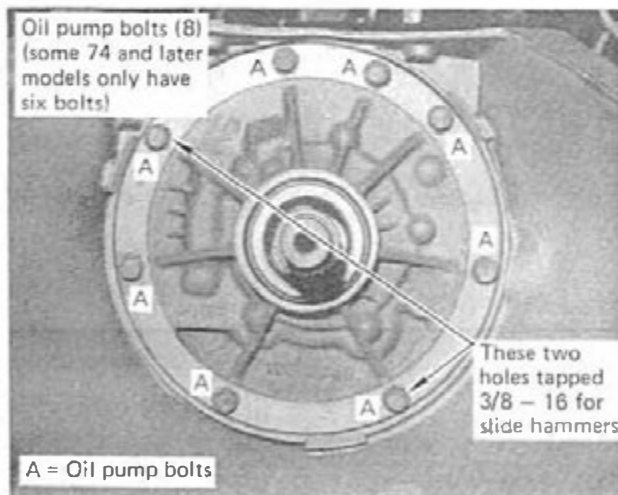

FIGURE 9
STEP 12. Remove eight oil pump retaining bolts. (See Fig. 9) Note: Some '73 and later units only have six bolts. The two bolt holes at the 5 and 10 o'clock positions are tapped for 3/8-16 thread. Install slide hammers or a length of chain at these locations and "bump" the pump assembly out of the case. On variable pitch models be careful not to damage the wire connected to the solenoid. Remove and discard pump gasket except on variable pitch models where it is attached to the pump. Remove and discard pump O-ring around the outside of the pump housing. Set the oil pump assembly aside.